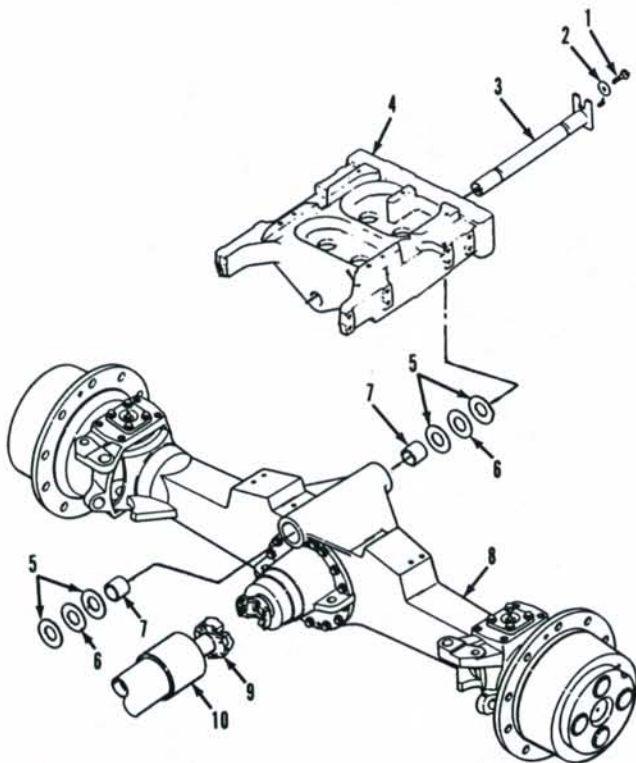

Fig. 4—View of front drive axle and front support removed from tractor.
6. REMOVE AND REINSTALL. To remove front drive axle assembly (8—Fig. 4), place shift control
7. REMOVE AND REINSTALL. To remove front support (4—Fig. 4), first remove hood, grille and side panels. Disconnect air intake hose. Drain radiator and disconnect front wiring harness connector. Disconnect upper and lower radiator hoses, coolant air bleed hose and coolant recovery hose. Disconnect ether starting line from intake manifold. Remove hoses from clip on radiator, then remove air conditioning condenser and lay back on top of engine. Identify and disconnect oil cooler lines and remove oil cooler. Attach a hoist with lift straps to radiator support. Unbolt radiator support from front support and tilt radiator forward to clear fan as the assembly is removed.